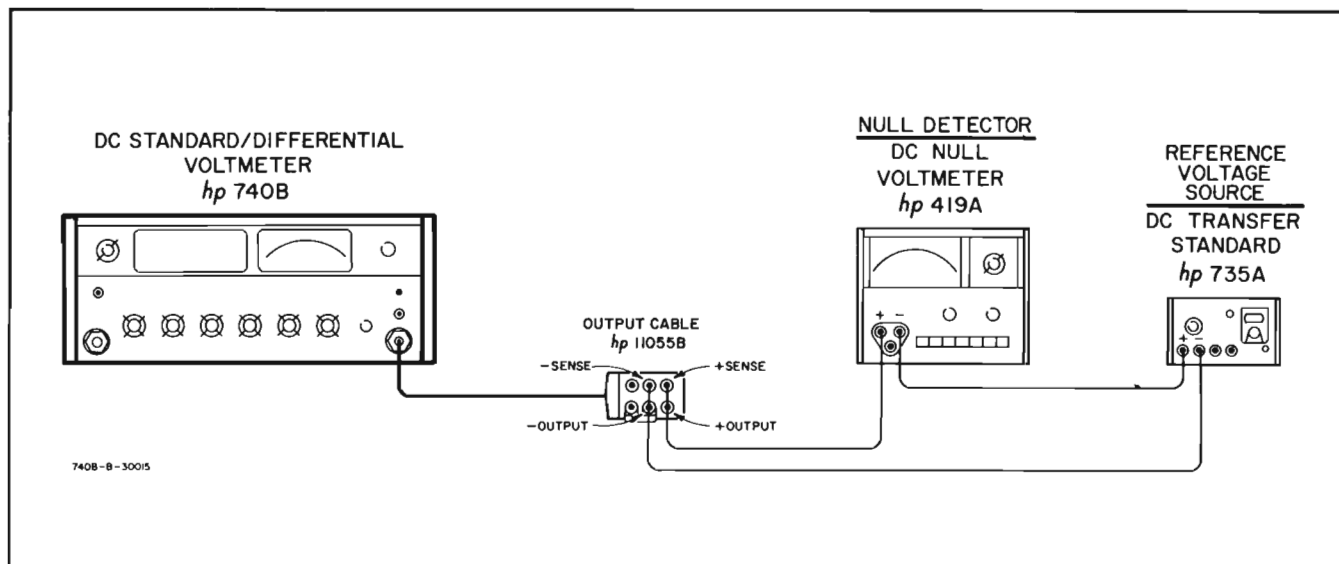

Figure 5-13. Reference Supply Calibration
- n. Connect 740B OUTPUT terminals as shown in Figure 5-13. Set VOLTAGE SET and STD VERNIER controls to the value of the known external reference voltage.